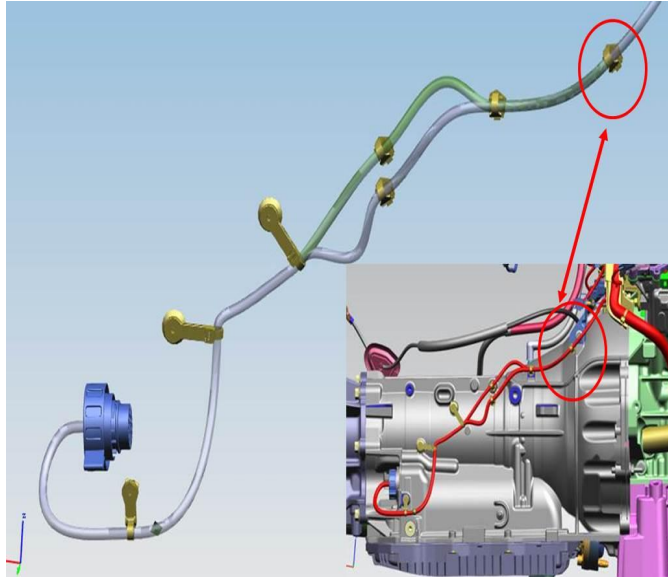
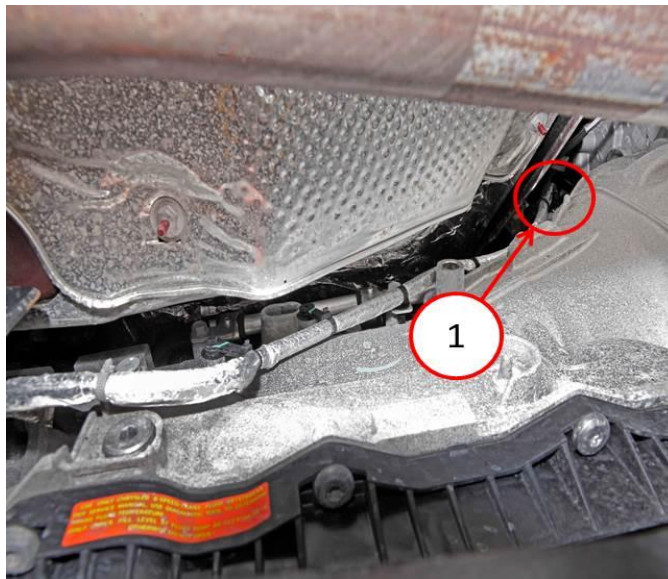

Fig. 1 Retainer To Be Replaced
Fig. 2 TCM Wiring Harness
2. Remove the forward retainer clip (Fig. 1) and (Fig. 2).